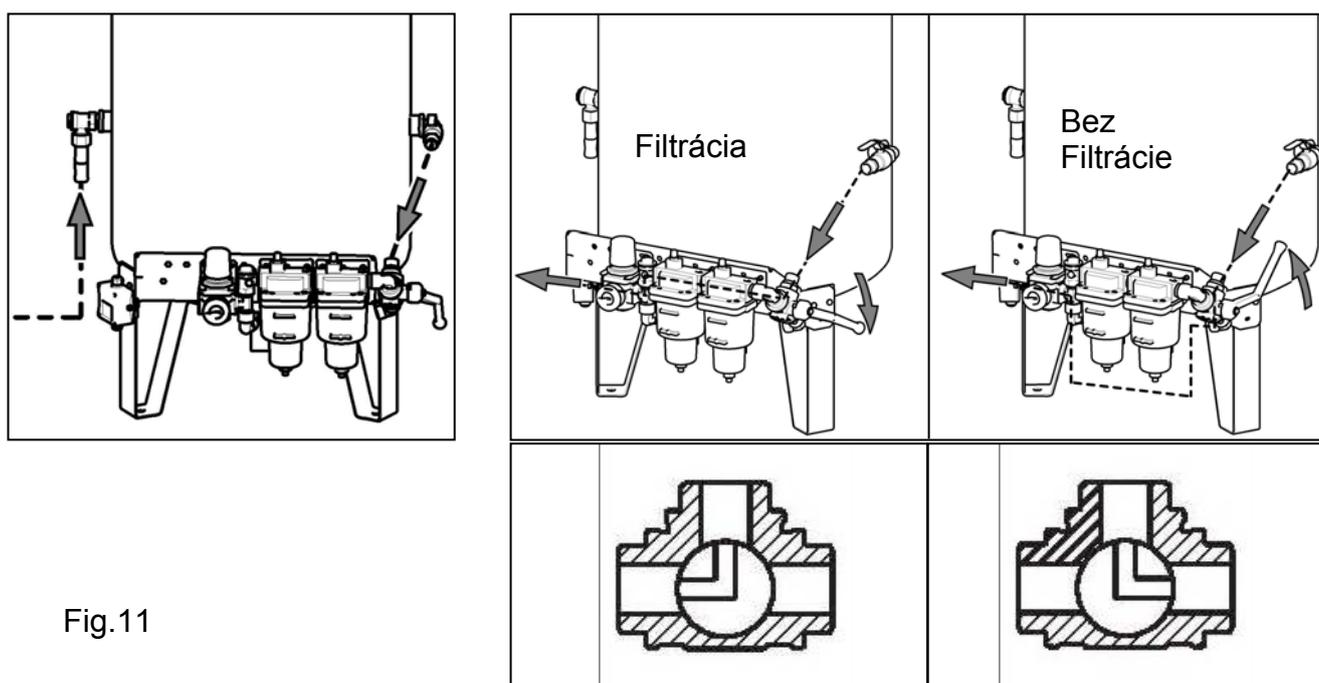

Fig.11
- Connect the hose from the air tank outlet to the set of filters. The 3-way valve facilitates the continuous delivery of compressed air to the compressed air circuit. Changing the position of the lever on the 3-way valve redirects the flow of air (through the filters or directly into the circuit without filtration) to facilitate simpler filter maintenance and filter element replacement. (Fig.11)